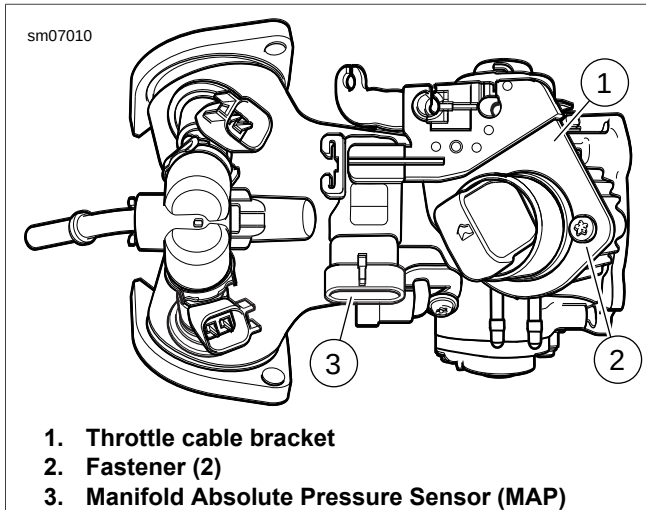

Figure 4-25. Throttle Cable Bracket Location
2. See Figure 4-25. Remove two fasteners (2) to release throttle cable bracket (1) from induction module. Discard fasteners.
4. See Figure 4-25. Install **new** throttle cable bracket fasteners (2). Tighten to 20-35 in-lbs (2.3-4.0 Nm).